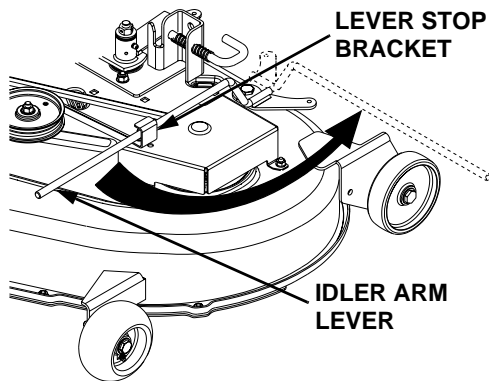
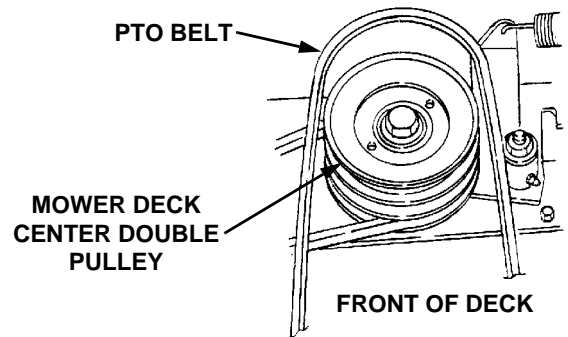

Figure 40
Figure 41
5. Lower the tractor implement lift handle to its lowest setting. Disengage the deck idler arm lever from its stop bracket and release the spring tension by rotating the lever out and rearward (Refer to Figure 40).
6. Remove the rearward end of the PTO belt from the upper pulley of the deck center double-pulley (See to Figure 41). Engage the deck idler arm lever back into its stop bracket (Refer to Figure 40).